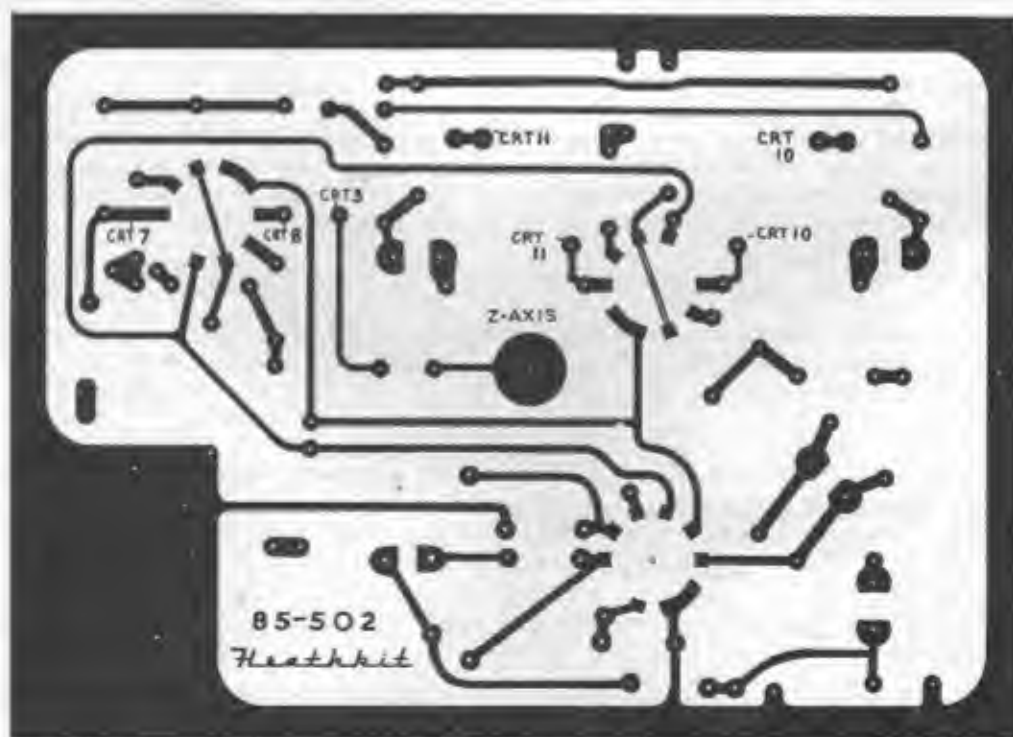

FIGURE 18.
- ( ) Mount the three 9-pin valveholders and fan out the contacts. However, before soldering the valveholders to the circuit pattern, connect a short bare wire from pin 3 to pin 8 of valveholder V3 and V7. See Figure 18. Then solder the valveholders in place, being sure that the short jumper is well soldered to the contacts and to the circuit pattern.
- ( ) Assemble the Z-axis BLACK terminal to the circuit board using the 4BA clearance hole provided. The body of the terminal goes on the foil side of the circuit board. Use a 4BA nut and lockwasher on the phenolic side. (See Figures 18 and 28.) NOTE: The two insulating bushes are NOT used in this instance.